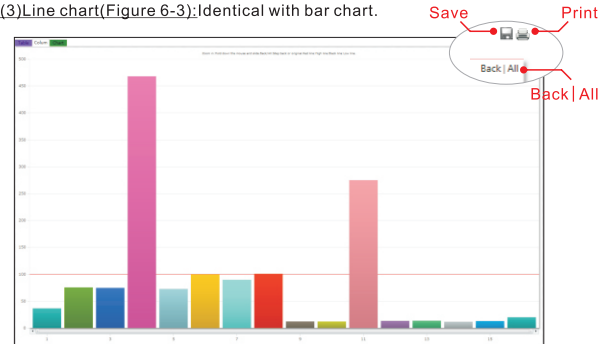
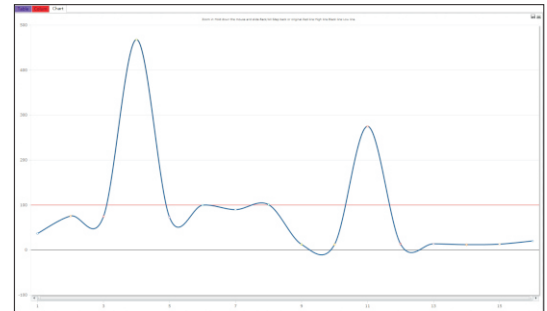

Figure 6-2
Figure 6-3
(2)Bar chart(Figure 6-2):
- ① Axis X denotes the number of times;Axis Y denotes the value of measurement.
- ② Red line:High standard line,Black line:Low standard line,Find the Selection
- ③ Click the left key of the mouse and draw to zoom in the area selected while click the EXIT/FULL DISPLAY on the right upper corner to zoom out.
- ④ Click the icon on the right upper corner to save/print current charts.
- (3)Line chart(Figure 6-3):Identical with bar chart.